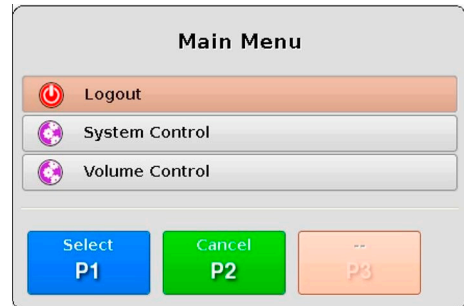

Fig. 22: Main menu at the local station
Pressing the  key on the keyboard opens the main menu (see Fig. 22). Depending on the user role (user login, ↵ 25) the menu items can differ. Some items can be invisible. Navigate between the menu items using the navigator and select the desired menu item by pressing **P1**. The following table explains accessible menu items.
- ▷ Press the  key to open the main menu (see Fig. 22).